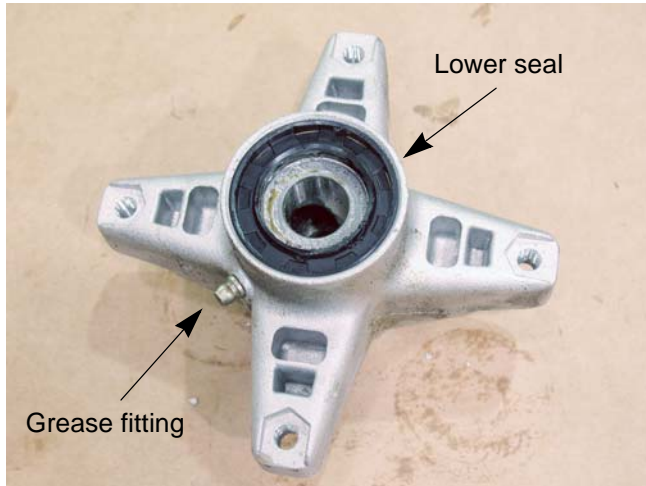

Figure 8.19
6. Remove the lower bearing seal. See Figure 8.19.